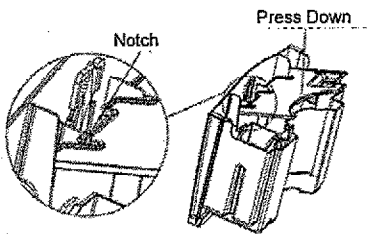

Fig. 4
4. Replace the bucket cover. Make sure the cover is locked into the notches on the bucket and push down (Fig. 4 & 5).
1. Remove the BUCKET from the unit. (Fig. 4)
(Fig. 4)